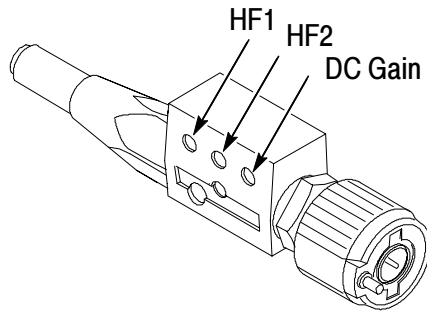

Figure 5: P5100 Adjustment Locations
6. Locate the **HF1**, **HF2**, and **DC Gain** adjustments. See Figure 5.